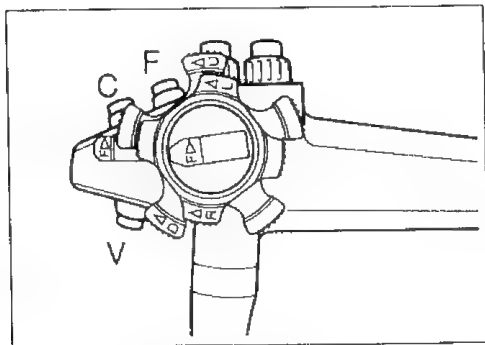

Fig. 14
10. Check the endoscope control buttons positioned on the control body of the endoscope (Fig. 14). Each button; F, C and V will beep when pressed. If the COMPUTER indicator on the top right of the front panel is not lit, then when the F button is pressed, the main screen will freeze and the sub-screen will appear displaying the live video image (unless the screen format has been selected otherwise). Refer to the optional I/O board operating instructions for effects of other control buttons.